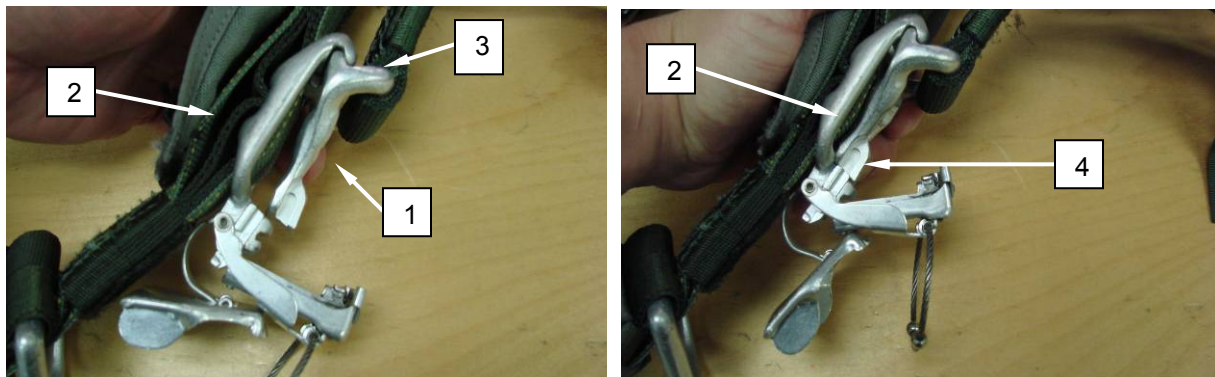

Figure 55. Secure Riser Assemblies to Harness Assembly.
3. Seat the male fitting (Figure 55, Item 1) of the CRA into the female fitting (Figure 55, Item 2), by fitting the heel of the male fitting into the groove of the female fitting (Figure 55, Item 3).
4. Fit the toe of the male fitting (Figure 55, Item 4) into the slot of the female fitting (Figure 55, Item 2).